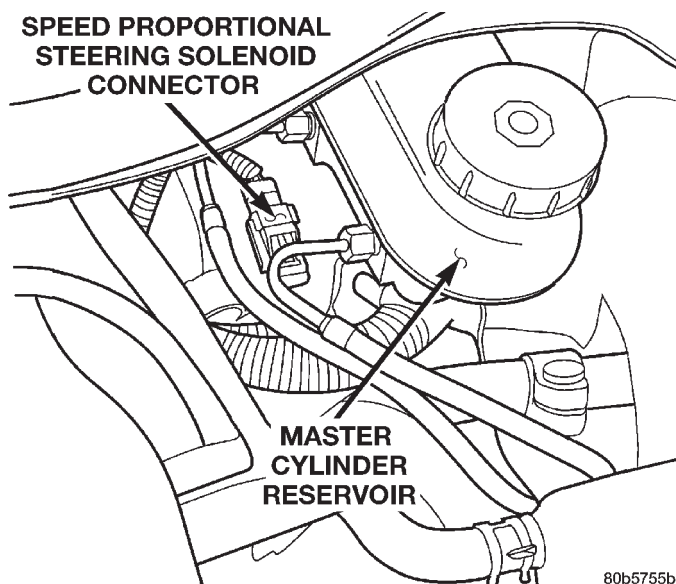

Fig. 12 Wiring Harness Connection
(15) If the steering gear being removed from the vehicle is a speed proportional steering gear, disconnect the wiring harness connector from the solenoid control valve electrical connector located on the steering gear end cap below the brake master cylinder. (Fig. 12).
(15) If equipped with speed proportional steering, connect the wiring harness connector to the solenoid control valve electrical connector (Fig. 12).